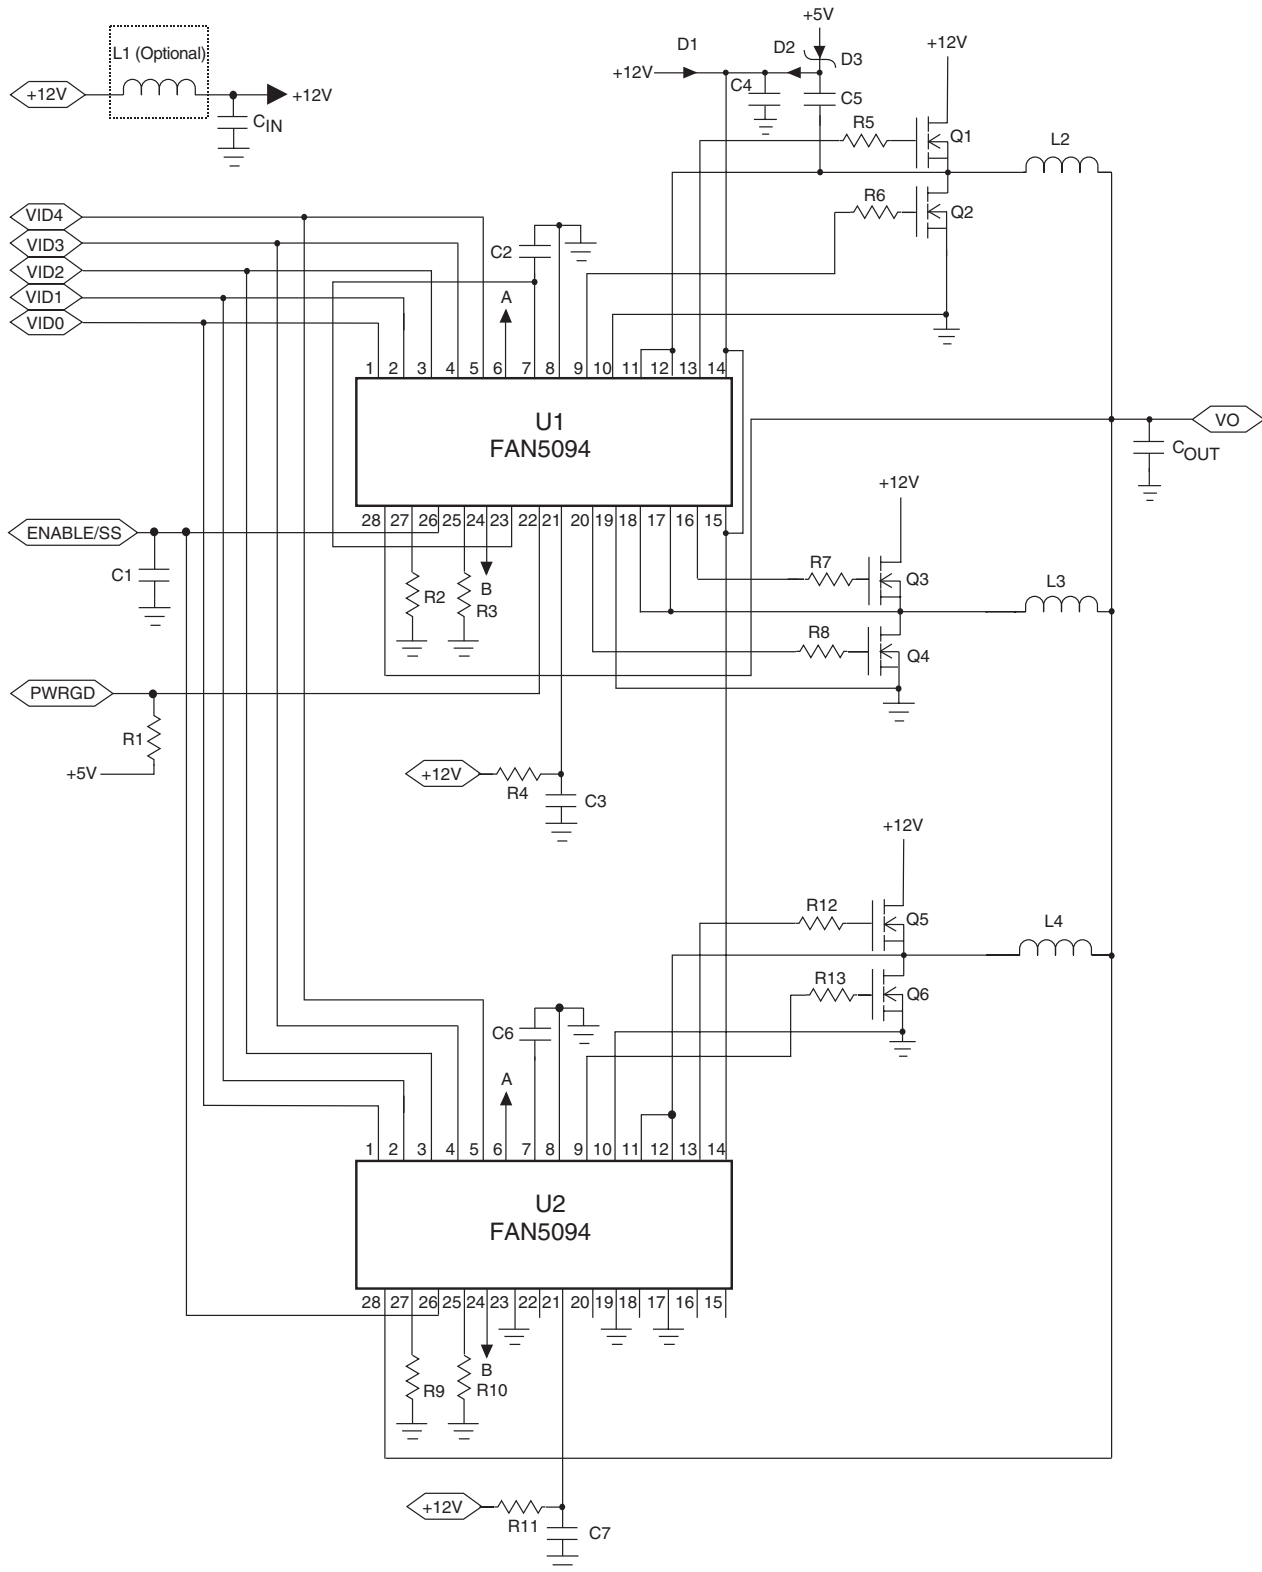

Figure 1. Three-Phase Application Circuit for 65A Willamette Processor
( $V_{CC} = 12V$ ,  $V_{OUT} = 1.500V$ , and  $T_A = +25^{\circ}C$  using circuit in Figure 1, unless otherwise noted.)
( $V_{CC} = 12V$ , and  $T_A = +25^\circ C$  using circuit in Figure 1 , unless otherwise noted.)
**Table 2. FAN5094 Application Bill of Materials for Figure 1**
The FAN5094 contains four high current output drivers that utilize MOSFETs in a push-pull configuration. The drivers for the high-side MOSFETs use the BOOT pin for input power and the SW pin for return. The drivers for the low-side MOSFETs use the VCC pin for input power and the PGND pin for return. Typically, the BOOT pin will use a charge pump as shown in Figures 1–2. Note that the BOOT and VCC pins are separated from the chip’s internal power and ground, BYPASS and AGND, for switching noise immunity.